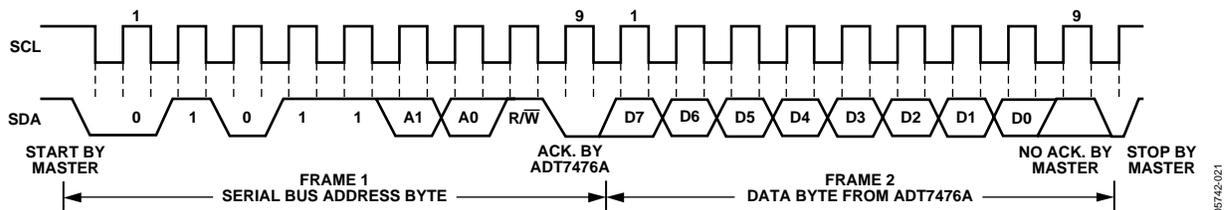

Figure 20. Reading Data from a Previously Selected Register
A read operation is then performed consisting of the serial bus address; $\overline{R/W}$ bit set to 1, followed by the data byte read from the data register (see Figure 20.)
2. If the address pointer register is already known to be at the desired address, data can be read from the corresponding data register without first writing to the address pointer register (see Figure 20).